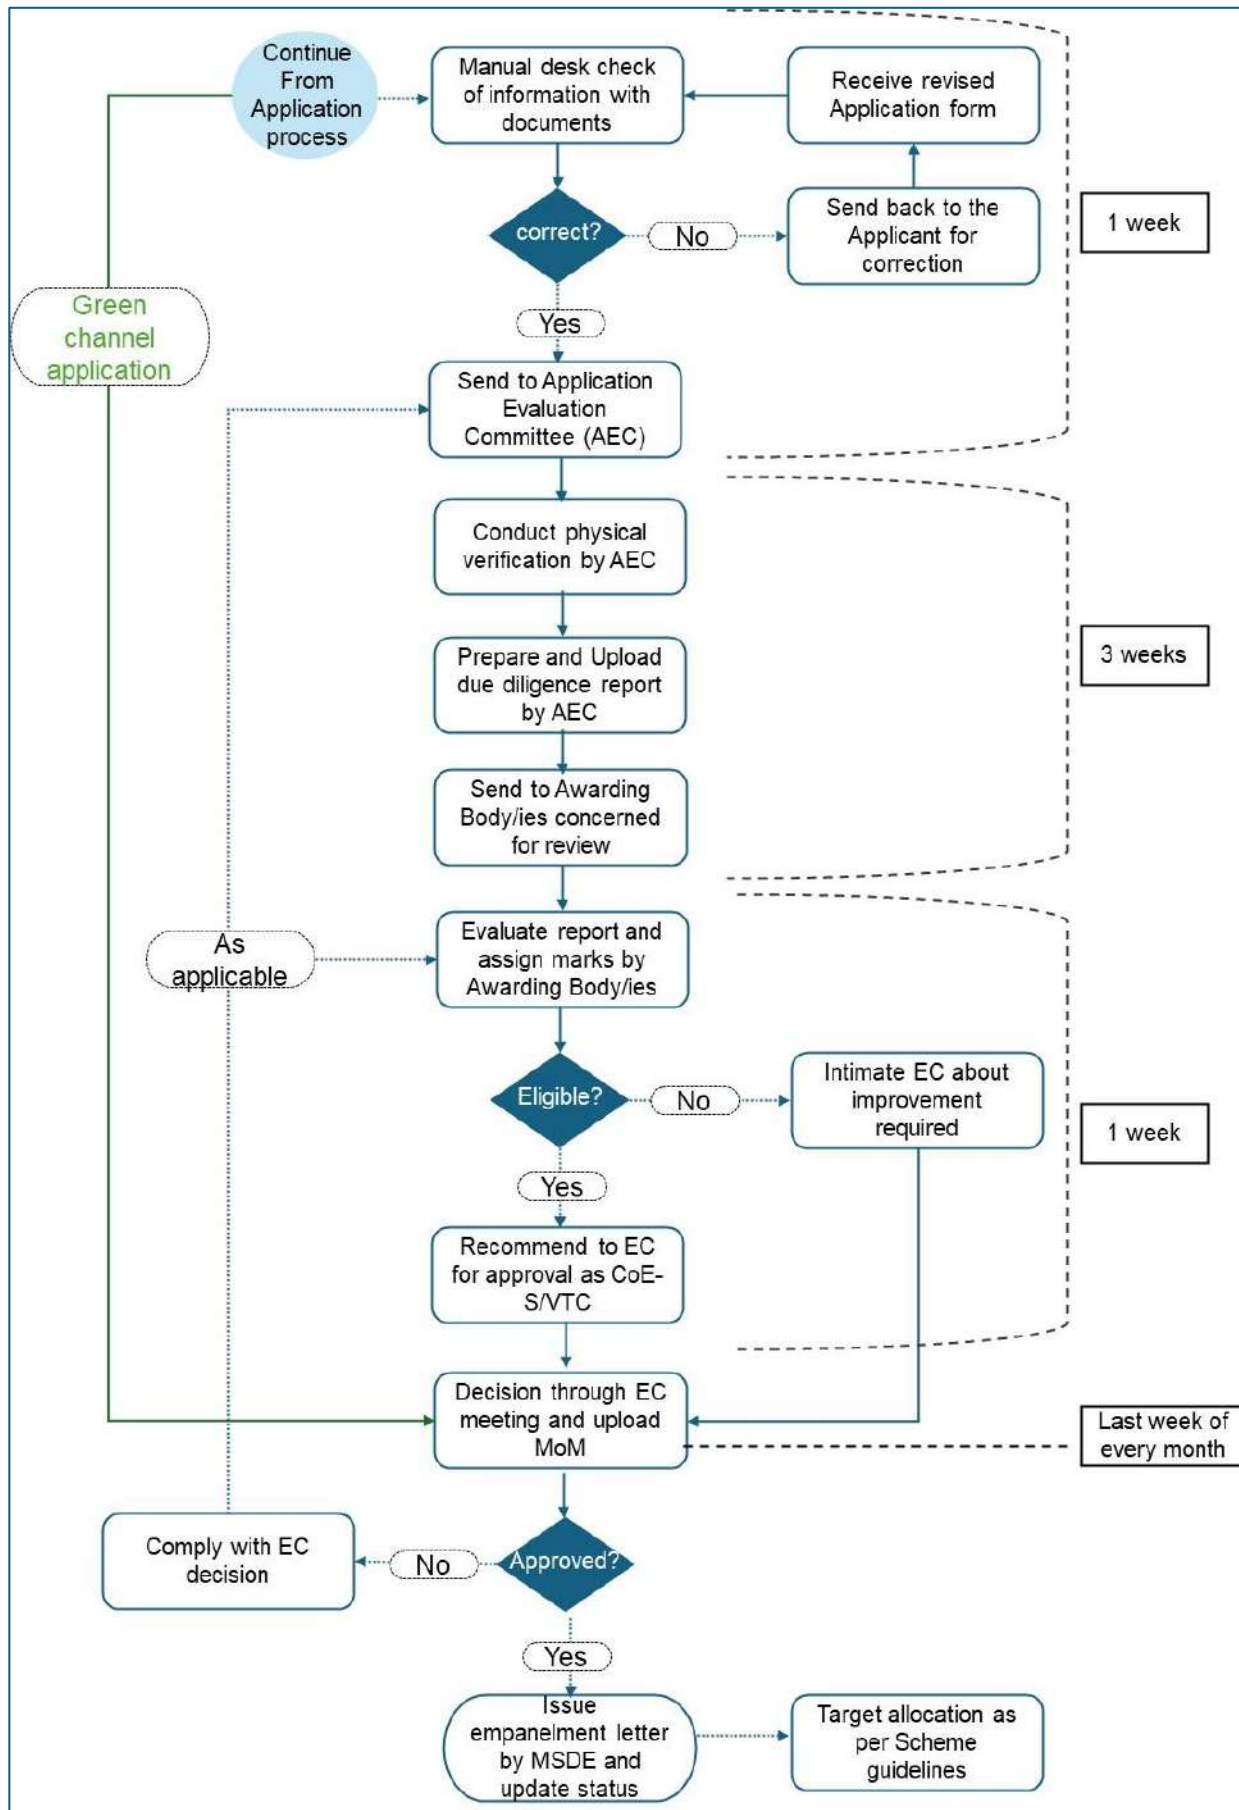

Figure 6: Evaluation process
3.3.1 Application will undergo a three-stage evaluation process, comprises of - (a) Desk level scrutiny, (b) Physical verification to the Centre, and (c) Review and recommendation by concerned Awarding Body/ies. The evaluation process is outlined at Figure 6 below: